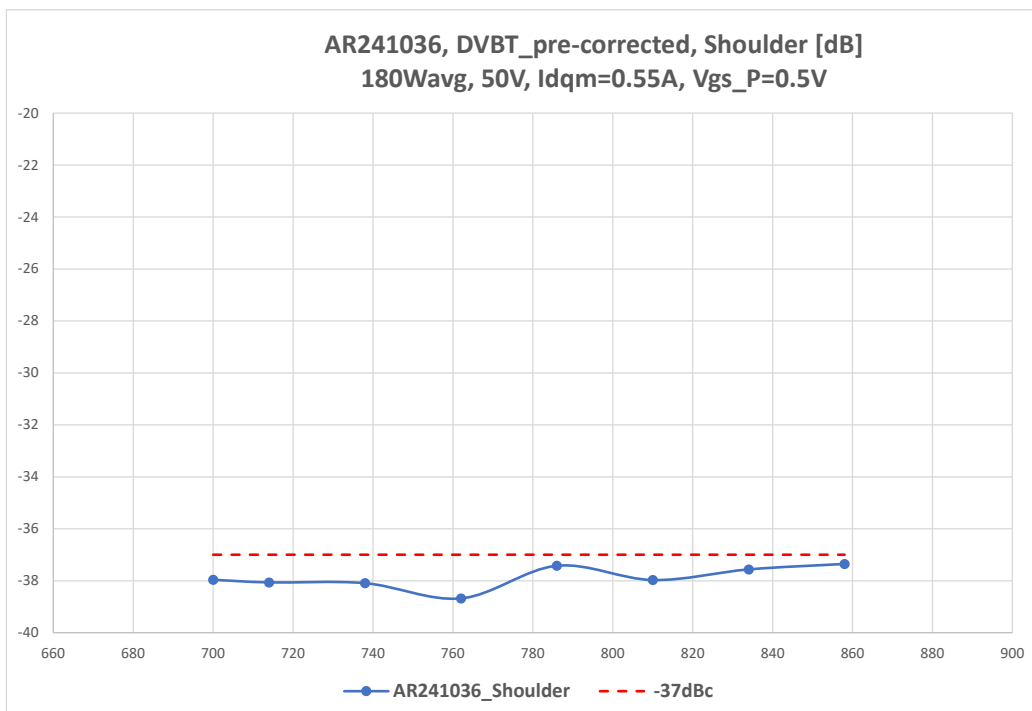

Figure 8 DV-B-T, Shoulder 4.3Mhz Pre-corrected values
- Figure 8 DVB-T, Shoulder 4.3Mhz Pre-corrected values 9